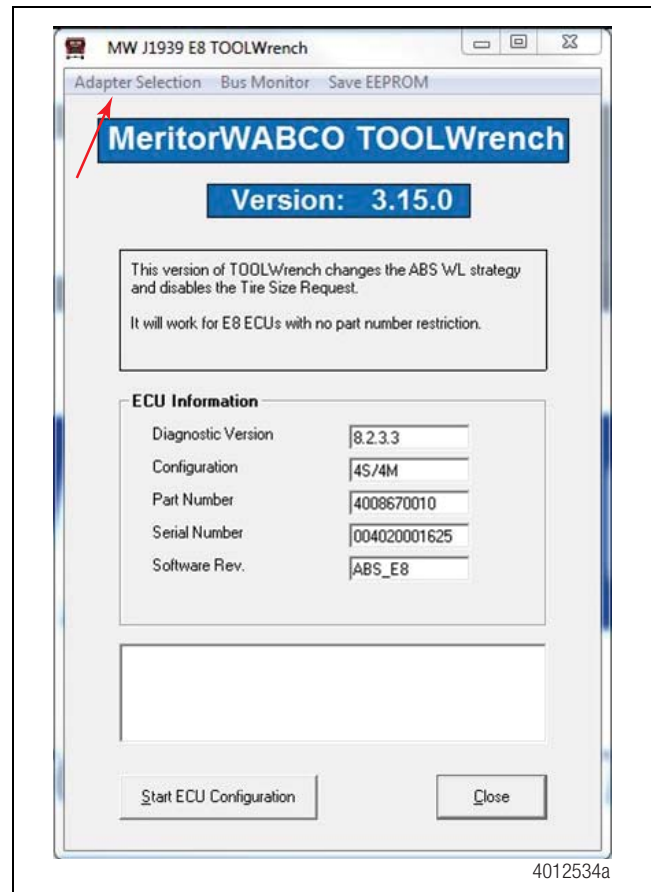

Figure 3
5. When installing this software, verify you are using the correct Diagnostic Adapter and protocol. If you are not sure, use the selection screen for Diagnostic Interfaces by selecting the Adapter Selection menu in the top toolbar of the TOOLWrench application. Figure 3.